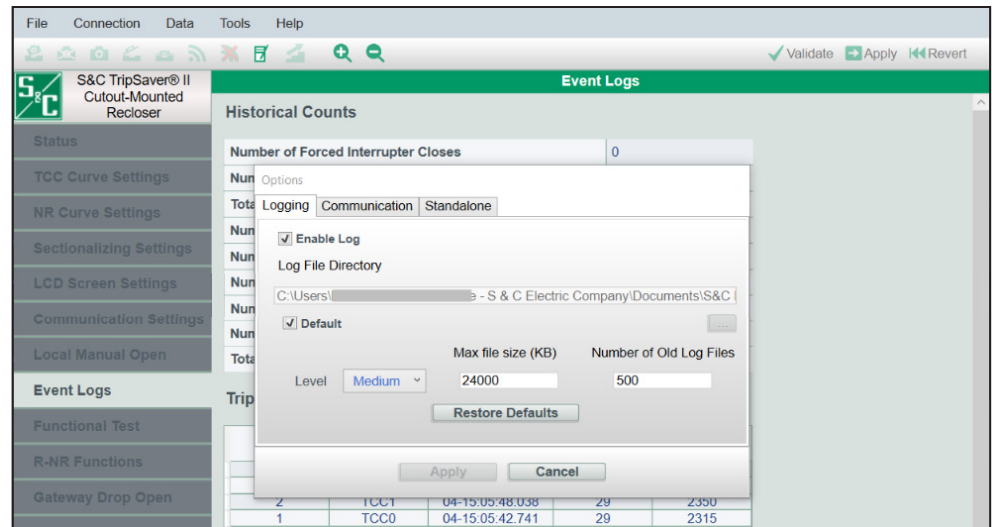
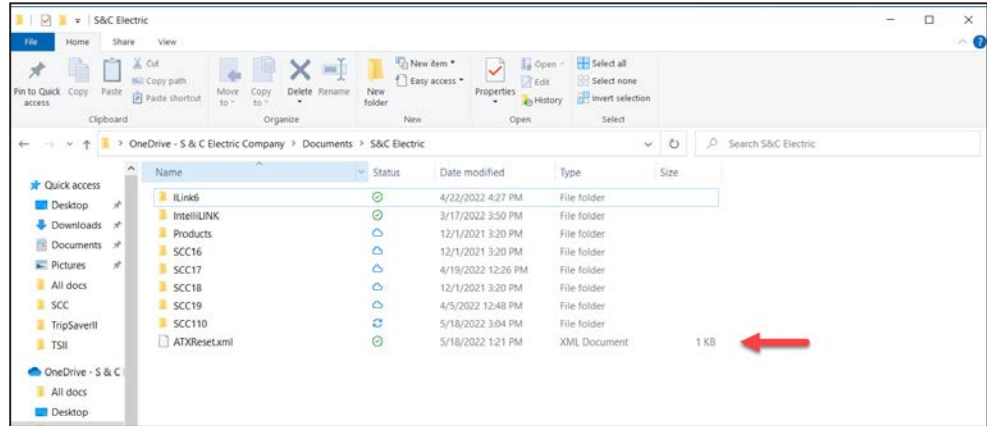
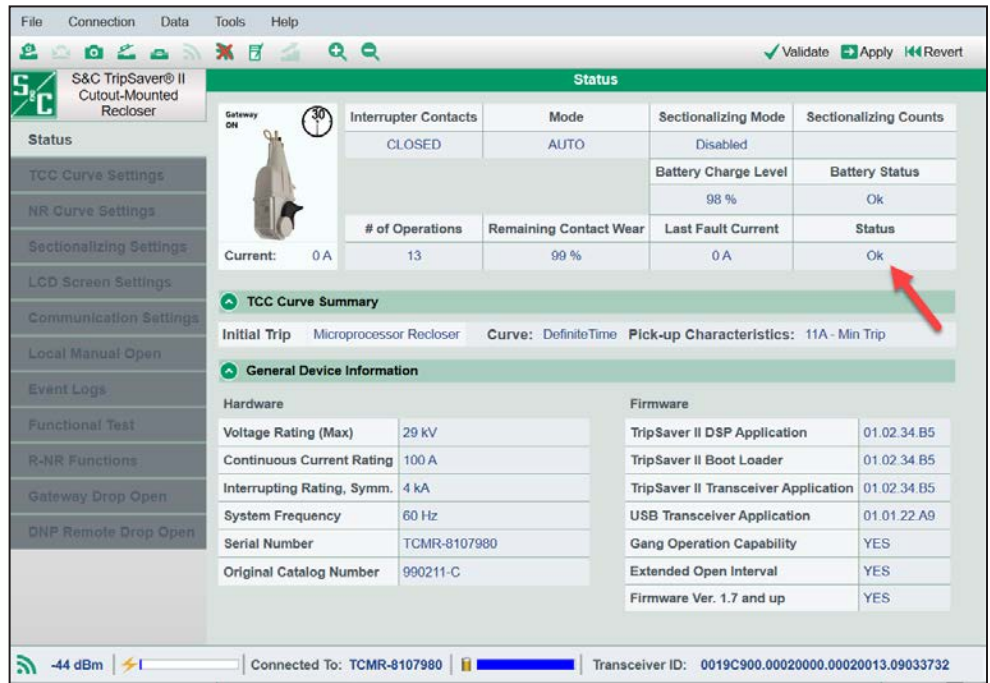

Figure 156. The default Log File Directory.
Figure 157. The location of the repair file will be the default Log File Directory.
Figure 161. The Status screen after a successful Clear Service Now reset procedure.
STEP 4. S&C will return the repair ATXReset.xml file. Place the repair file in the default Log File Directory. To find the default Log File Directory, select *Tools>Options* on the **Main** menu. See Figure 156 and Figure 157 on page 114.
- STEP 8.** Navigate to the *Status* screen and check the status of the TripSaver II recloser. If the Status is **OK**, the **Service Now** status has been cleared. See Figure 161 on page 117. Then, delete the ATXReset.xml file from the default log file directory. See Figure 157 on page 114. If the **Service Now** status is still present, contact the S&C Global Support and Monitoring Center at 1-888-762-1100.